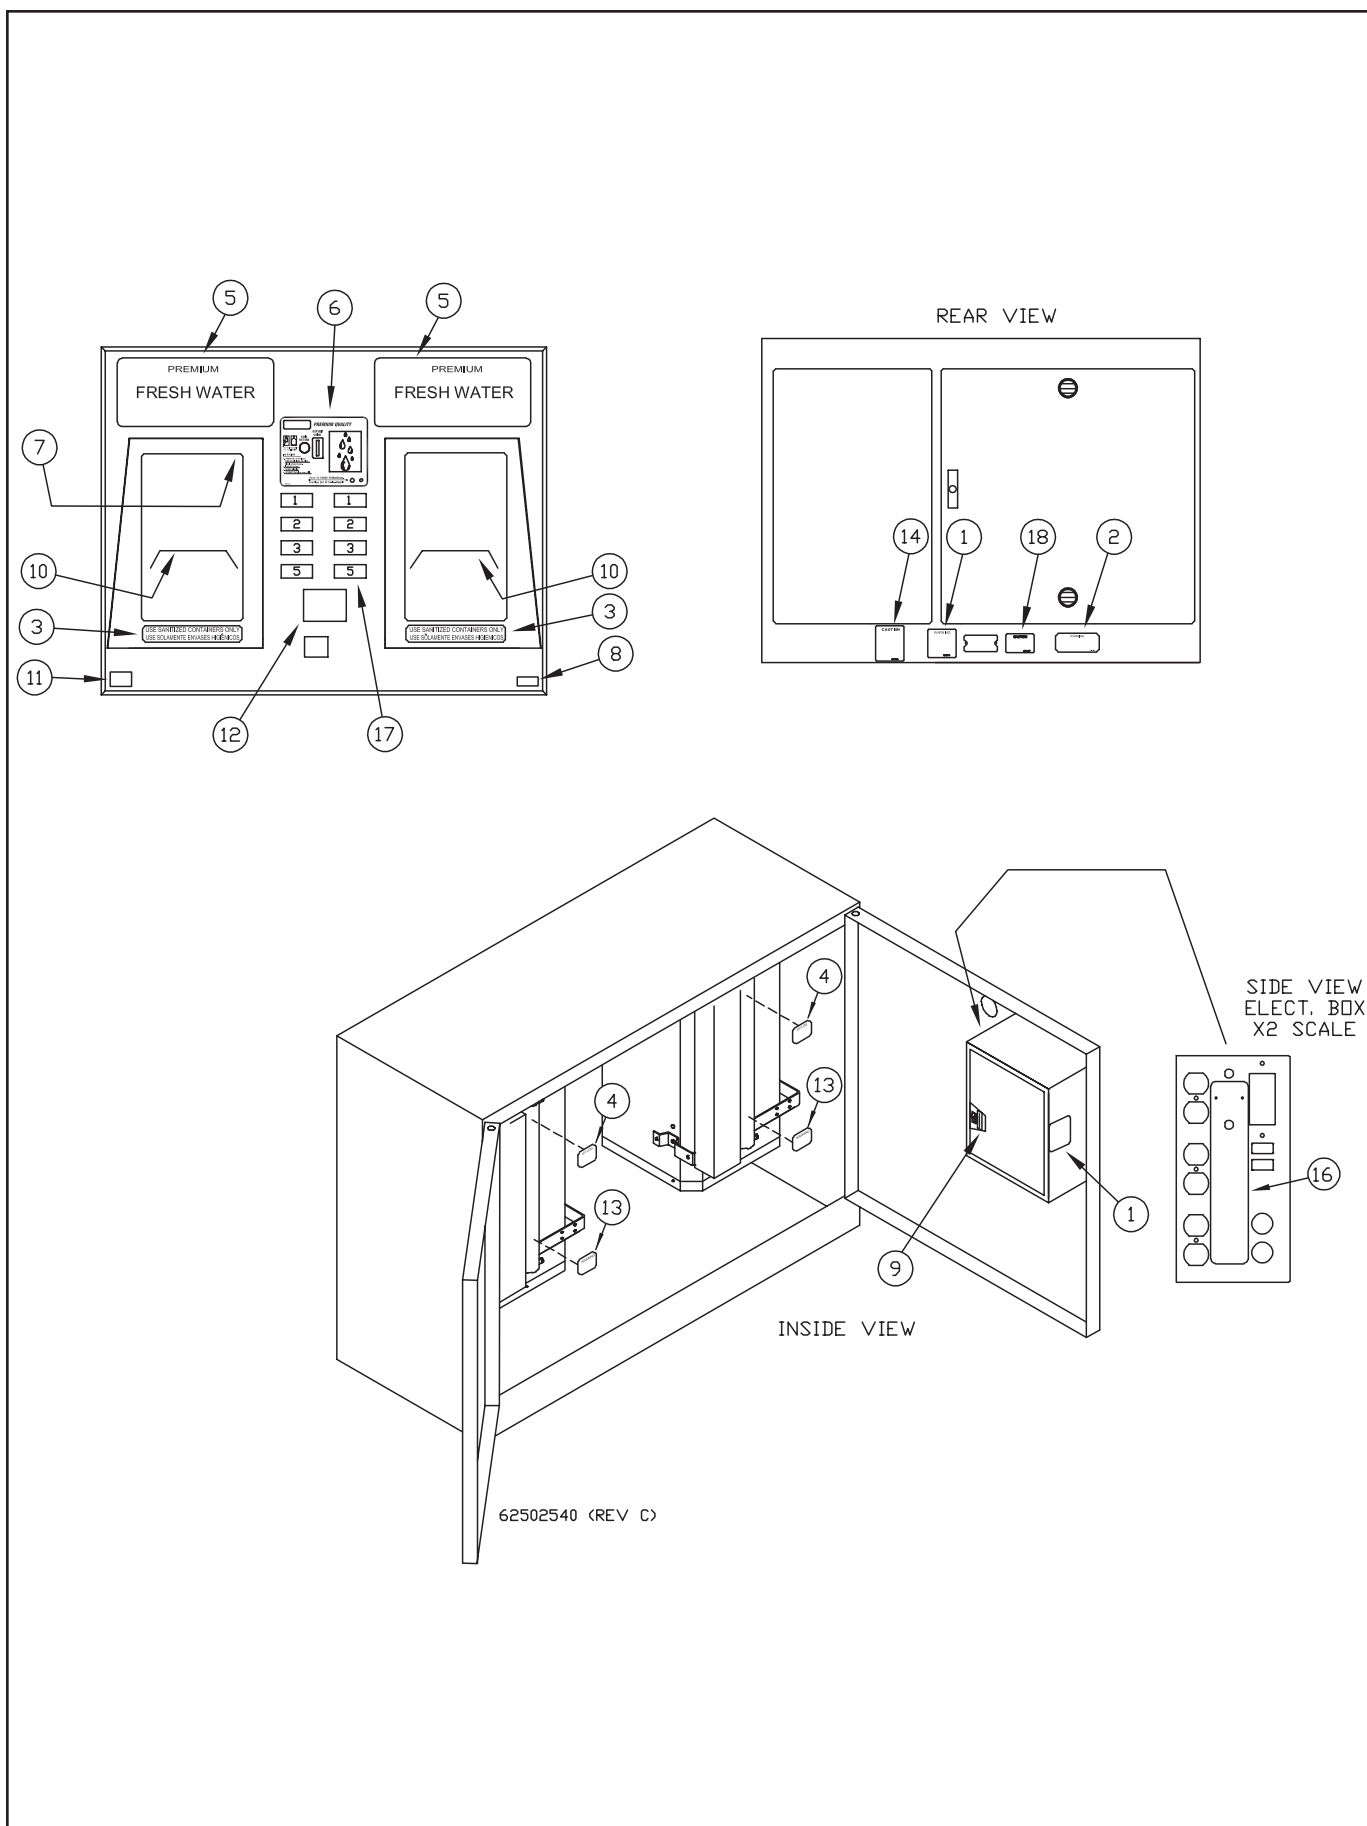

FIGURE 1
1. Decal 62502954 located on inside and on rear (Figure 1).
2. Decal 625-002-084 located on inside (Figure 1).
4. Decal 62502938 service log decal located by ultraviolet light (Figure 1).
13. Decal 62502939 U.V. Warning located by ultraviolet light (Figure 1).